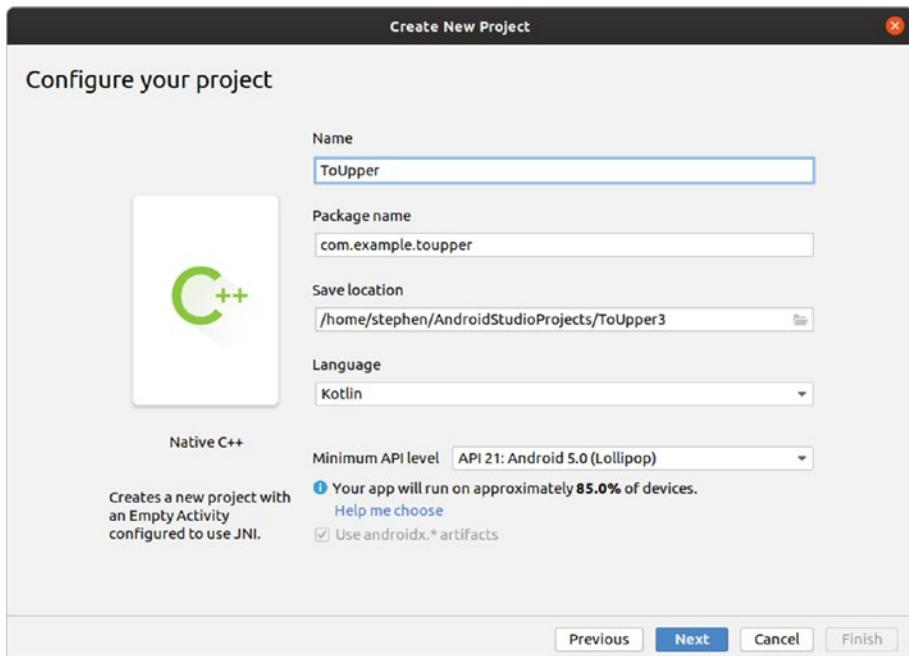

Figure 10-2. Second screen in the new project wizard
3. On the next dialog box, choose our project name, in our case “ToUpper”; keep the language as Kotlin and select “API21: Android 5.0 (Lollipop)” as the minimum API level. I chose this API level since it is the first one with 64-bit support. You may need to choose a different version depending on your requirements, as shown in Figure 10-2.